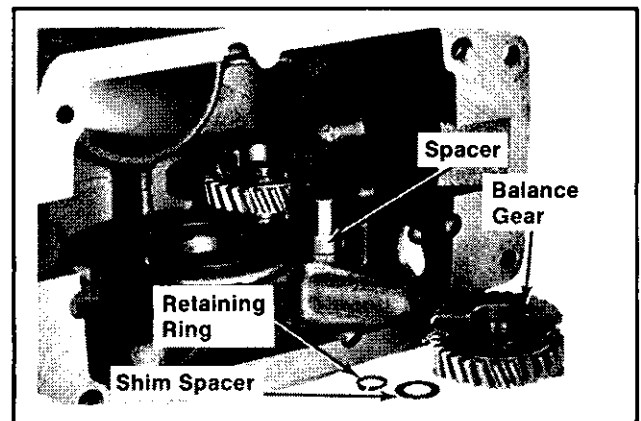

Figure 12B-9. Installing Balance Gears.
2. Check end play with a flat feeler gauge. Refer to Figure 12B-10.